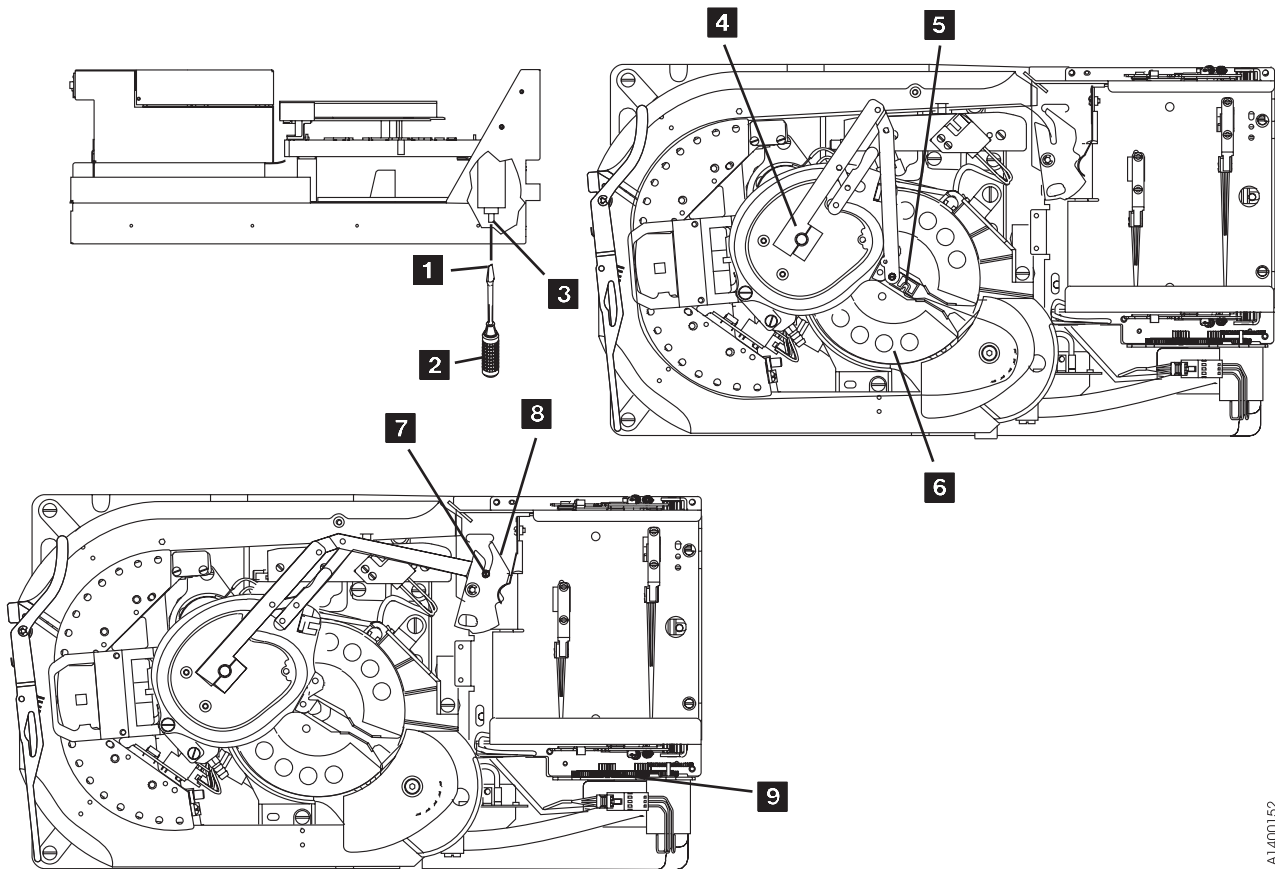

Figure 9-28. Leader Block and Threader Pin in Machine Reel Hub
1. See Figure 9-28 on page 9-42. Attach the tape removal tool **1** P/N 6850663 to your socket wrench handle **2**.